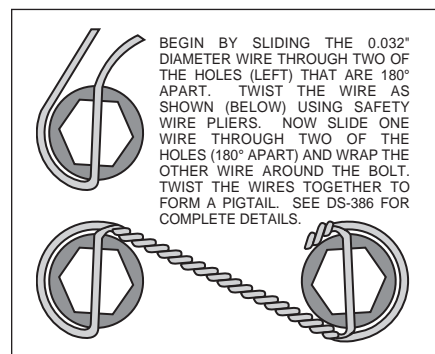
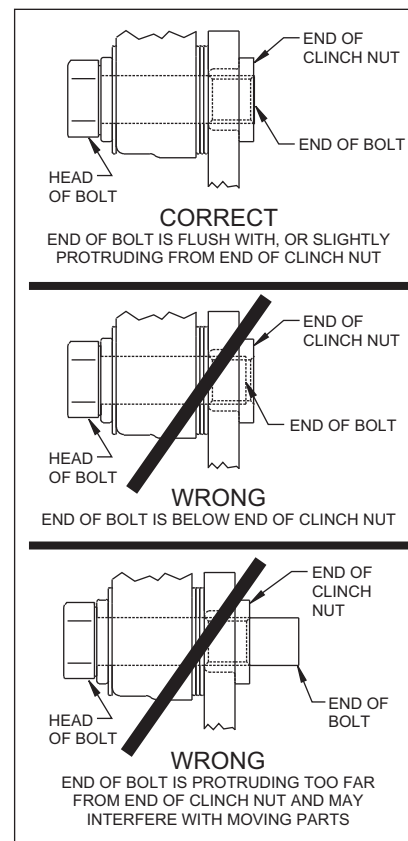

Figure 4. Safety Wire Diagram
Figure 5.
- Slide the caliper mounting bracket kit assembly (1) onto the housing flange and then insert the axle assembly through the center hole of the caliper mounting bracket assembly (1) and secure using the stock Original Equipment Manufacturer (OEM) bolts and nuts. **NOTE:** be sure to reinstall the c-clips on the stock axle in the original configuration. Stock OEM hex nuts that retain the caliper mounting bracket assembly (1) should be on the wheel side of the bracket. Apply red *Loctite*® 271 to the stock OEM bolt threads and torque to OEM specifications. Make sure the heads of the caliper mounting bracket assembly (1) insert nuts are FACING OUTWARD TOWARDS THE WHEEL..
- Align the correct hole pattern in the rotor(2) with the stud pattern on the axle flange. **NOTE:** Some OEM and after market axles come with stud sizes larger than 12 mm diameter. Verify stud size and have a qualified machine shop drill the bolt circle of the rotor to the correct stud size, if necessary. Slide the rotor (2) over the wheel studs covering the mounting bracket assembly (1) and against the axle flange face.
- NOTE:** Please reference the caution statement at the beginning of the assembly instructions. WITH THE BLEED SCREWS POINTING UP, mount the caliper (3) over the rotor (2) and onto the caliper mounting bracket (1) using washers (4) and mounting bolts (5). View the rotor through the top opening of the caliper. The rotor should be aligned in the center of the caliper. If not, adjust the caliper by using 0.032 inch shims (6) by placing them between the caliper mounting bracket (1) and the caliper (3). Add as many shim washers (6) as necessary to achieve the correct alignment. **NOTE:** The end of the bolt must be flush with or slightly protruding from the head of the clinch nut. See Figure 5. Place spare shims (6) between washer and caliper mounting ear to achieve the proper mounting fastener configuration. Always use the same amount of shims on both the top and bottom caliper mounting bolts (5). Apply red *Loctite*® 271 to the mounting bolt threads (5), torque to 30 ft-lb. Safety wire the caliper mounting bolts (5) using standard 0.032 inch diameter stainless steel safety wire as shown in Figure 4. Please refer to Wilwood's data sheet DS-386 (available at www.wilwood.com/pdf/ds386.pdf) for complete safety wire installation instructions.
- Position the Wilwood disc brake pads (7) into the caliper (3) and fasten with cotter pin (8). Steel backing plate side of brake pad should face the caliper pistons.
- NOTE:** Clevis and cable kits which attach to the parking brake assembly are not included in the Wilwood parking brake kit. Wilwood offers a generic style parking brake cable kit, P/N 330-9371 for this application which can be ordered separately from your local Wilwood dealer or by calling Wilwood customer service at (805) 388-1188.
- Before final installation of the wheel, install a couple of lug nuts, remove the rubber grommet in the bracket kit assembly (1) and adjust the parking brake shoes outward (using a drum shoe adjustment tool available at your local auto parts store) while spinning the rotor/hat (2) until a slight drag is felt again the hat/drum. Replace the rubber grommet when finished.